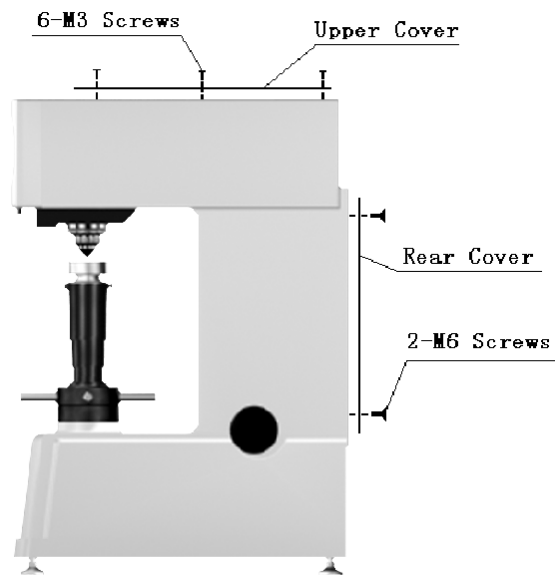

Figure 3-5 Remove top and back covers
1. Remove the six screws from top cover, as **Figure 3-5** illustrates.
3. Remove the back cover, as **Figure 3-5** illustrates.